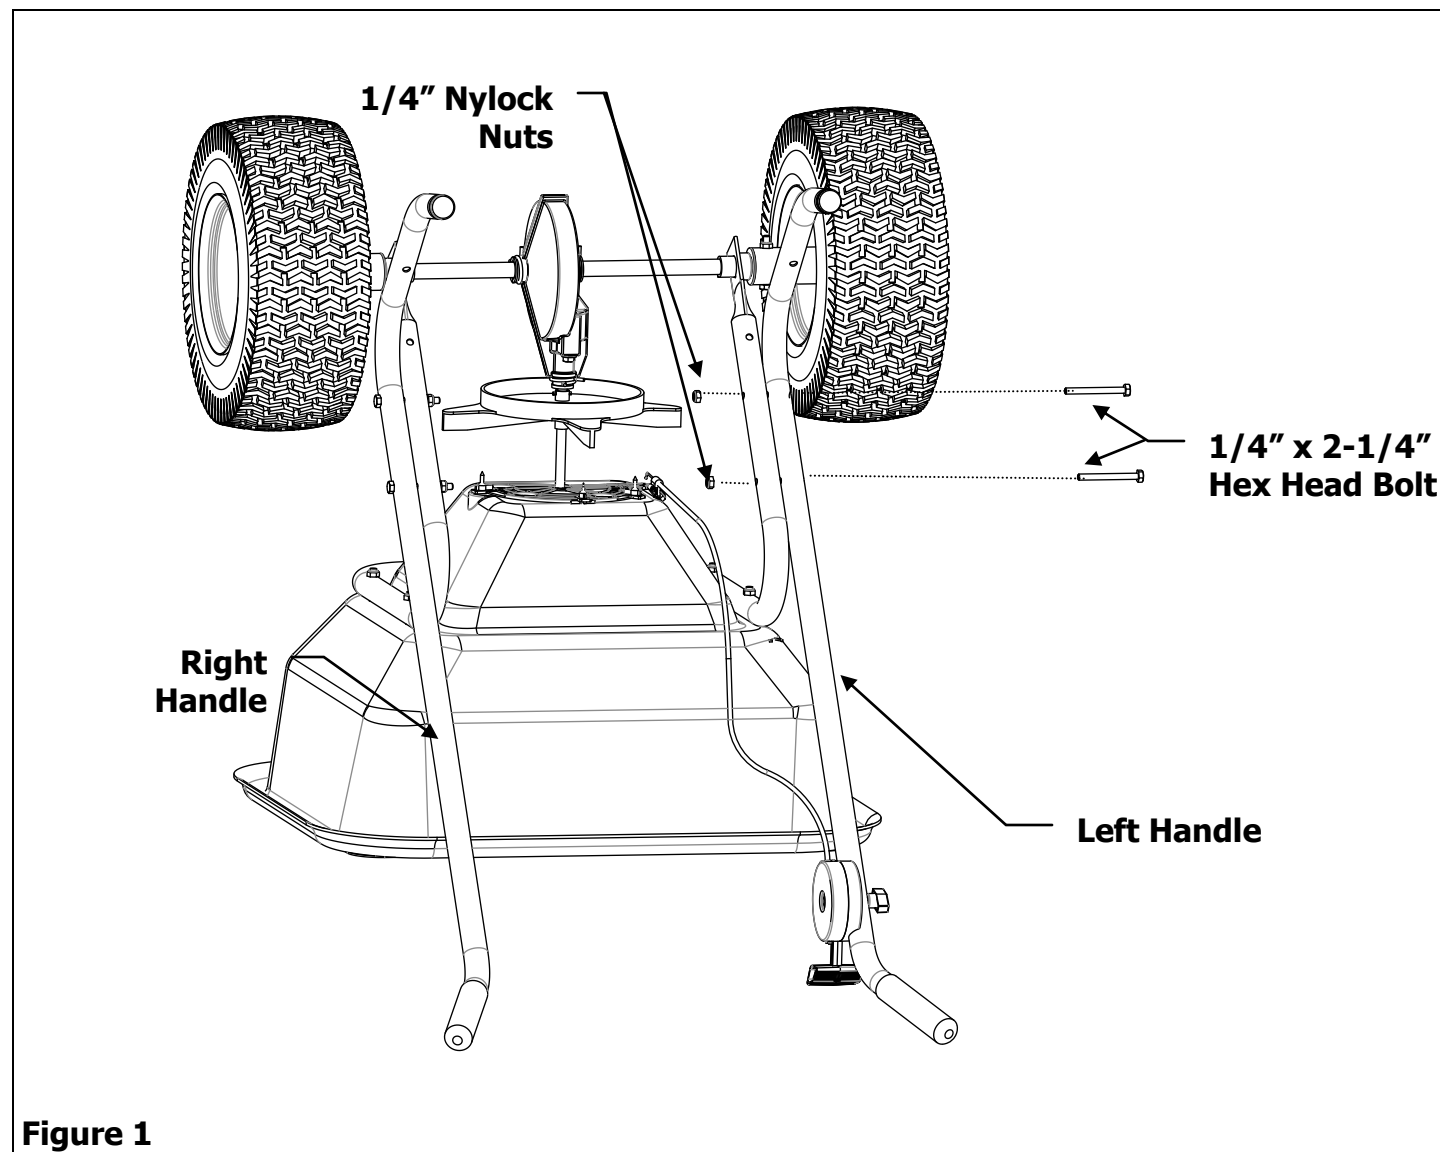

Figure 1
1. Attach both the Right Handle and the Left Handle to the outside of the Wrap Around Support using 1/4" x 2 -1/4" Hex Head and 1/4" Nylock Nuts. The top bolts will go from the outside—in and the bottom bolts will go from inside—out. See Figure 1.